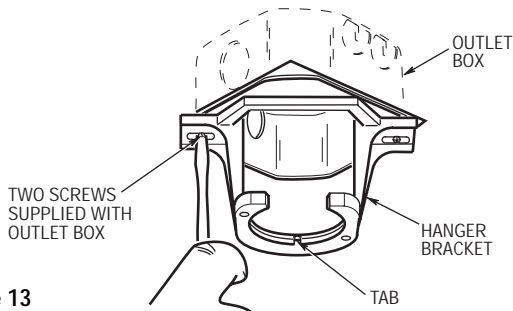
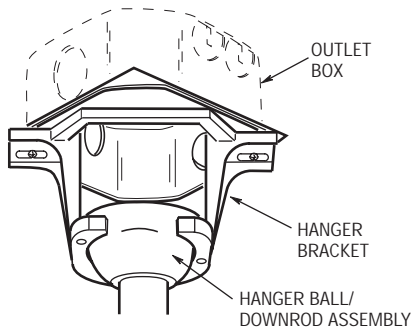

Figure 13
Figure 14
- 1. Securely attach the hanger bracket to the outlet box using the two screws supplied with the outlet box. (Figure 13.)
- 2. Carefully lift the fan and seat the hanger ball/downrod assembly on the hanger bracket that was just attached to the outlet box (Figure 14). Be sure the groove in the ball is lined up with tab on the hanger bracket (Figure 13).